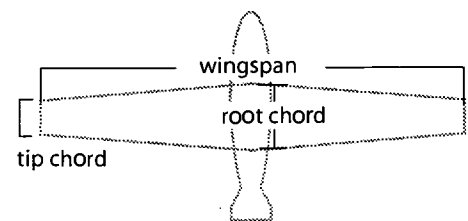

Figure 2
- Have students calculate the wingspan (in cm) for each wing. The wingspan is the linear distance from wing tip to wing tip. See Figure 2. Record the value on the data chart.
- Have students measure the root chord, the width of the wing at the line of intersection with the fuselage, for each wing. See Figure 2. Record the value on the data chart.
of the tip of the wing, for each wing. See Figure 2. Record the value on the data chart.